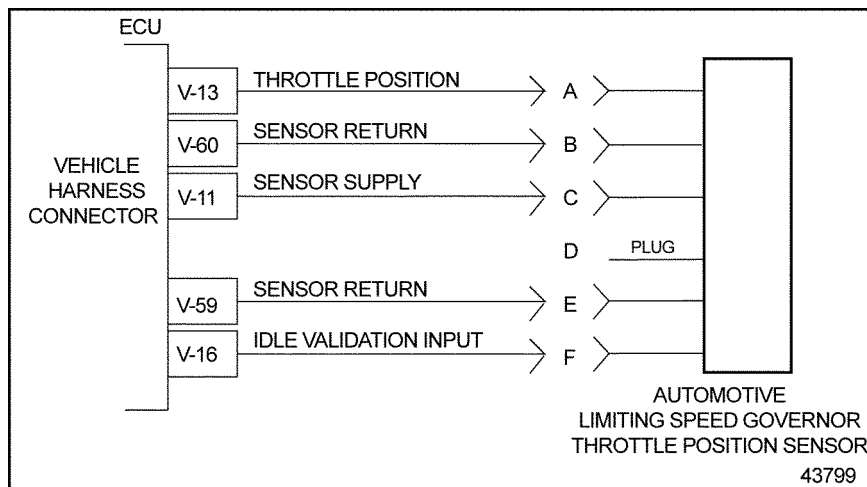

Figure 27-3 Throttle Position Sensor
3. Measure resistance between sockets B and V-60, A and V-13 at the TPS/AP Sensor harness connector. See Figure 27-3.